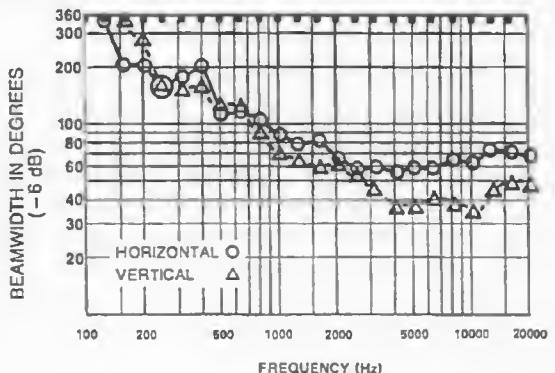

FIGURE 6 — DML-1152/DMC-1152
1.2-20 kHz horizontal (see Figure 6)
1.2-20 kHz vertical (see Figure 6)